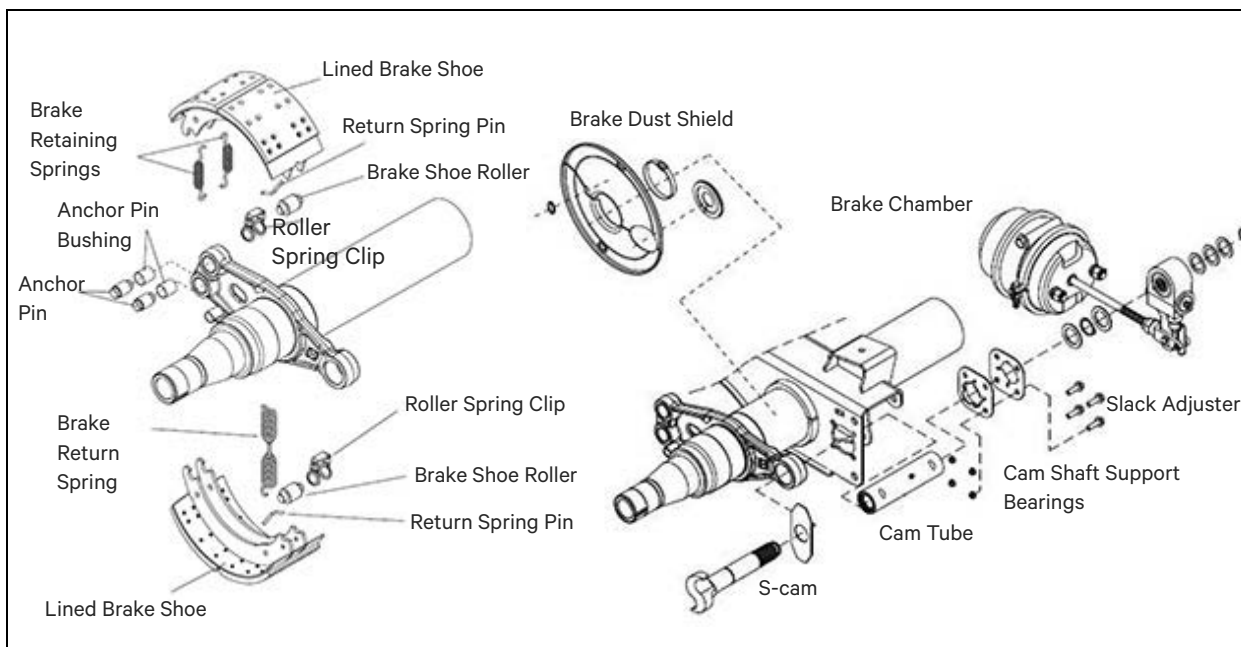

Figure 40 – Typical Brake Component Identification
It should be self-evident that properly maintained and correctly functioning brakes are a critical element in the safe and efficient operation of any trailer. All Flat and Step Deck Trailers are built with air operated drum brakes on every axle. Figure 40 illustrates the key components that make up the foundation brakes.
- i. Brake Drum (not shown in Figure 40)
**DO NOT** over torque the wheel lug nuts. The prescribed torque, as per Figure 40, will produce the maximum possible clamping force the stud is capable of delivering. By over torquing you reduce the actual clamping force produced and there is a good chance you will damage the stud and/or thread.